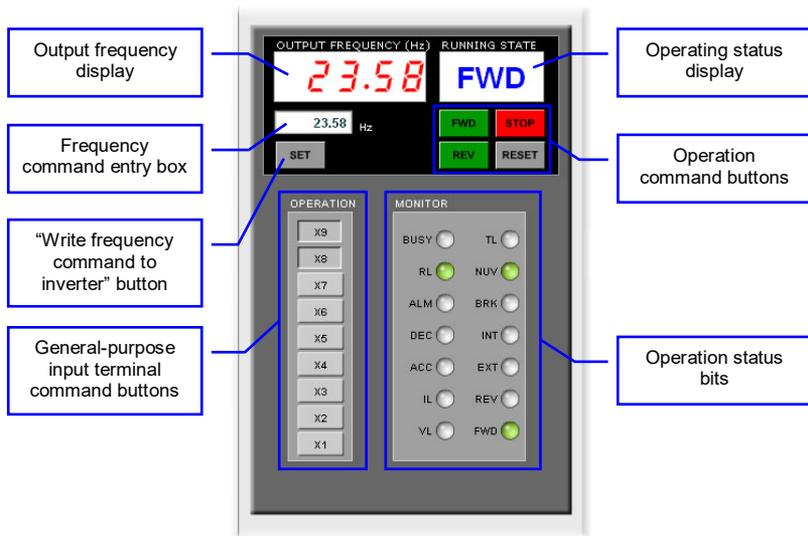

Figure 55: Virtual Keypad Overview
A "virtual keypad" is displayed on the left-hand side of the dashboard tab, and acts as an interface for several useful pieces of control and monitor information. For an overview of the virtual keypad interface, refer to Figure 55. Note that it is recommended to suspend all external protocol-based communications with PLC's, etc. when using the virtual keypad, as other protocols may simultaneously be writing to the inverter's frequency command and operation command word, resulting in seemingly unpredictable behavior.
**Output frequency display:** Indicates the current output frequency of the inverter in large red numbers, as reported by inverter register 2058. The image in Figure 55 indicates that the associated inverter is currently running at 23.58Hz.
**General-purpose input terminal command buttons:** These buttons (labeled "X1" through "X9") map to the corresponding bits in the inverter's operation command word (register 1799, bit #2 .. bit #10). The usage of these bits varies depending on the configuration of inverter function codes E01 to E09. When a given button is clicked and shown in its depressed state, the corresponding bit is set to a "1". When clicked again (and therefore shown in its non-depressed state), the corresponding bit is set to a "0". As an example, the image in Figure 55 shows X1..X7 as OFF ("0"), and X8 and X9 as ON ("1"). Note that controlling these operation command word bits will only affect the inverter when it is configured accordingly (refer to section 3.2).
**Operation status bits:** These “virtual LEDs” map to the corresponding bits of the same name in the inverter’s operation status word (register 2063). When a given bit in the status word is “1”, then its corresponding indicator will be lit. The indicator will not be lit if its status word bit is “0”. As an example, the image in Figure 55 shows FWD (bit #0), NUV (bit #5) and RL (bit #12) ON, and all other bits OFF.